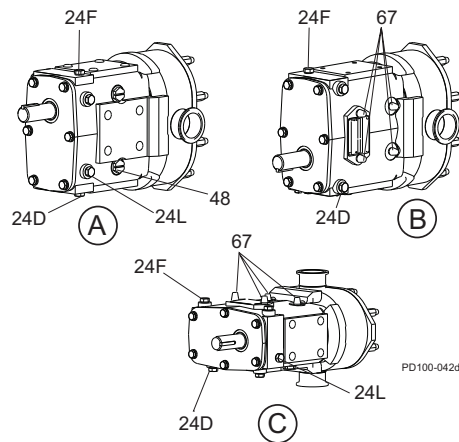

Figure 26 - Lubrication Points
Excess grease will accumulate in the gear case and must be removed through the cleanout hole covered with a plastic plug (Figure 26, item 48).